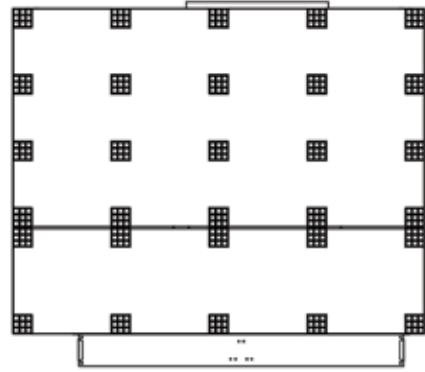

Figure 3E - Base Option 3 - Waffle Pads Only - Bottom View
3. **Waffle Pads Only** - If cabinet height prevents adequate space for framing, waffle pads alone may be used, reference Figure 3E. It is highly recommended that each